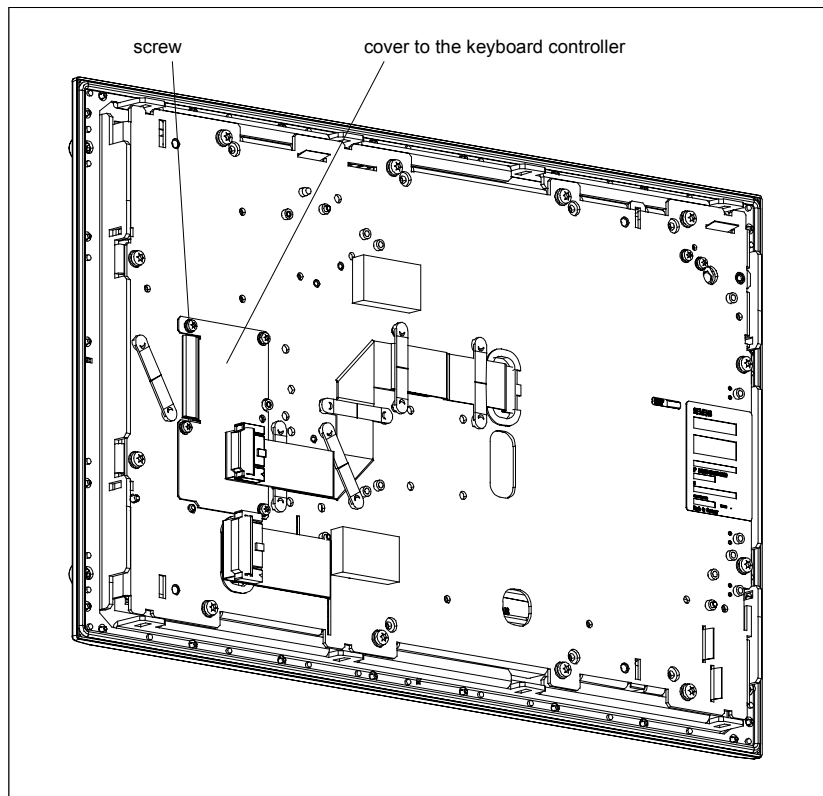

Figure 7-3 Detaching the cover to the keyboard controller
- Remove the four screws on the cover to the panel PC keyboard controller (see Figure 7-3).